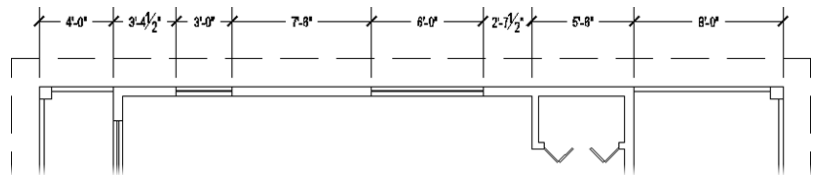

FIGURE 12.19: Dimensions added to each critical point along the top wall
- Use the Linear tool to add a dimension for the width of the front deck and the Perpendicular osnap to align the dimension lines. When you're finished, the dimensions in your drawing should look like Figure 12.19.